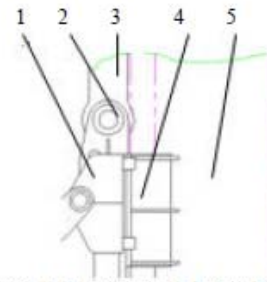

Fig. 8-7 Connection between the pull-down cylinder and rotary drive mounting
⑦ Connecting the rotary drive bracket and the piston rod of crowd cylinder
Continue extending operation for the crowd cylinder. When the piston rod head gets close to the top lug of rotary drive bracket, timely adjust the direction of piston rod hole (3) in the Fig. 8-7 to ensure that its head can successfully enter into the inner crotch of lug. Slowly adjust the concentricity of piston rod head hole and lug hole. Insert the connecting axle pin (2) and lock it.